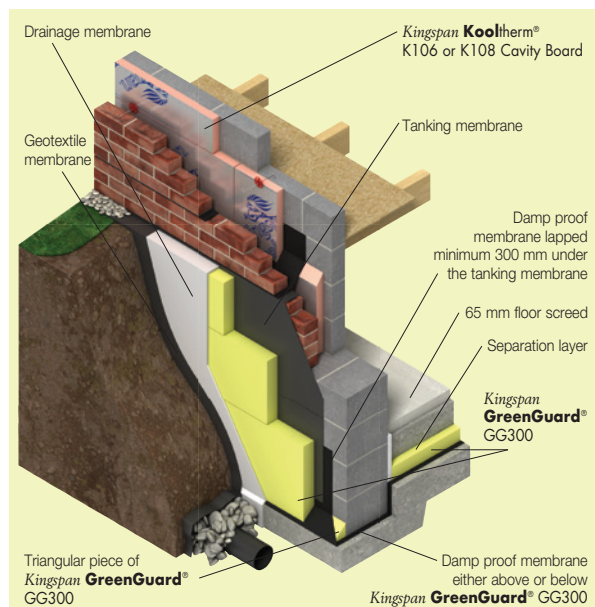

Figure 1
**Tanking System** – A continuous waterproofing membrane surrounding the exterior of the basement structure, preventing ground water from penetrating the basement construction. Available in mastic asphalt tanking, cementitious renders, self-adhesive membranes and liquid applied membranes (see Figure 1).